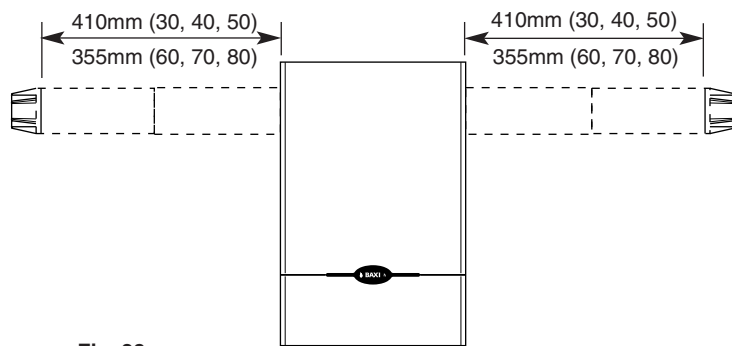

Fig. 38
1. The procedure for fitting the appliance flued to the left or right hand side is the same (Fig. 38).